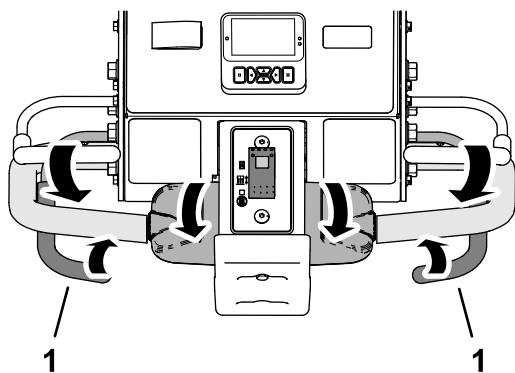

Figure 87
3. Close either the left or right the aerate bail (Figure 87).